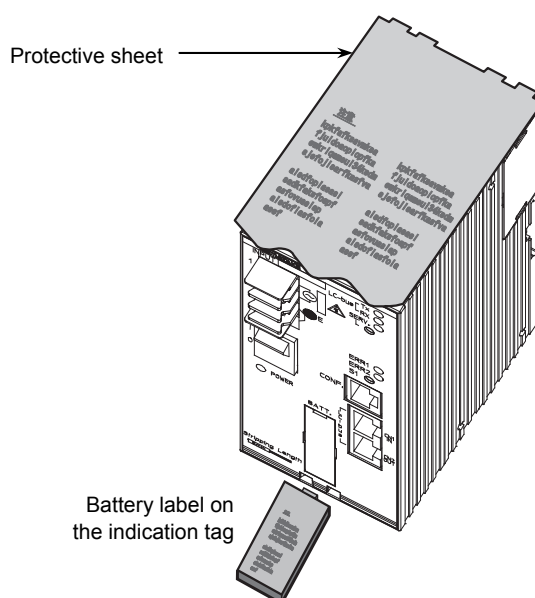

Figure 8. Battery label and protective sheet
- Peel off the protective sheet on the top surface of the product before turning on the power. (See Fig. 8.)